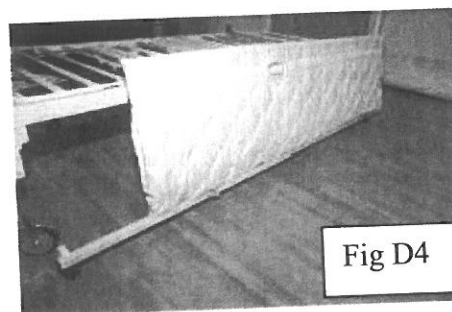

Fig D4
- If using side rails make sure cover is attached around the bottom of the rail rather than the frame of the bed.(Fig D4)